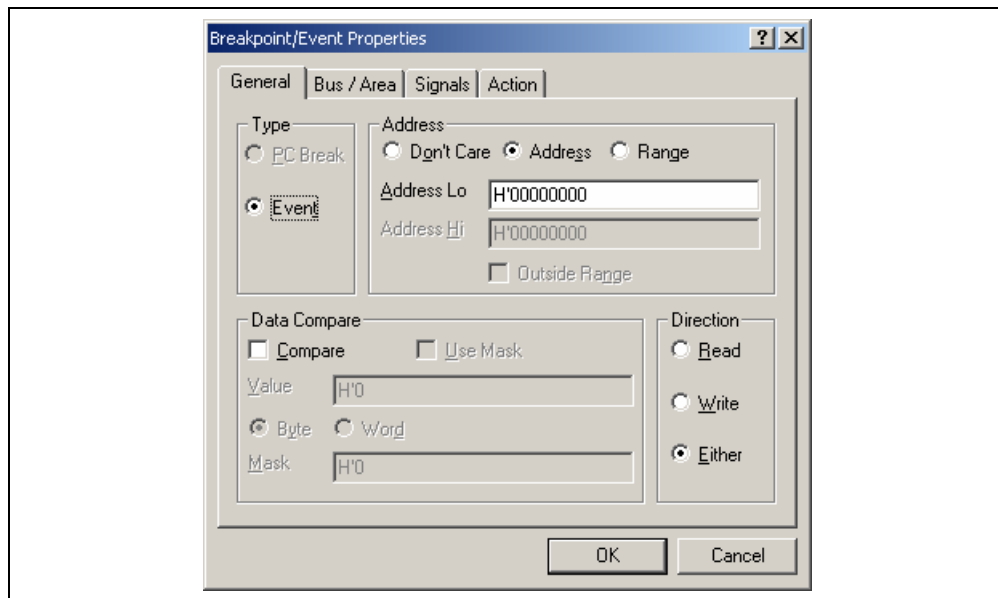

Figure 6.42 [Breakpoint/Event Properties] Dialog Box
- (2) Register the address range for trace acquisition as an event condition. Click the [Add...] button in the [Trace Events] group box on the [General] page to display the [Breakpoint/Event Properties] dialog box (see figure 6.42, [Breakpoint/Event Properties] dialog box).
- (3) Click the [Range] radio button in the [Address] group box on the [General] page of the [Breakpoint/Event Properties] dialog box. Use the [Locals] window to refer to the address on the line where variable `a`, which is defined within the `tutorial` function, is allocated (**H'00FFEF80** in this example) and enter this address in the [Address Lo] edit box. Then enter an address, which is H'27 added to that entered in the [Address Lo] edit box (**H'00FFFA7** in this example), in the [Address Hi] edit box. This procedure sets the memory range for variable `a` of the `tutorial` function.
- (4) Click the [Write] radio button in the [Direction] group box to set a write cycle for the specified range. This completes the setting of a memory range. Click the [OK] button to close the [Breakpoint/Event Properties] dialog box.